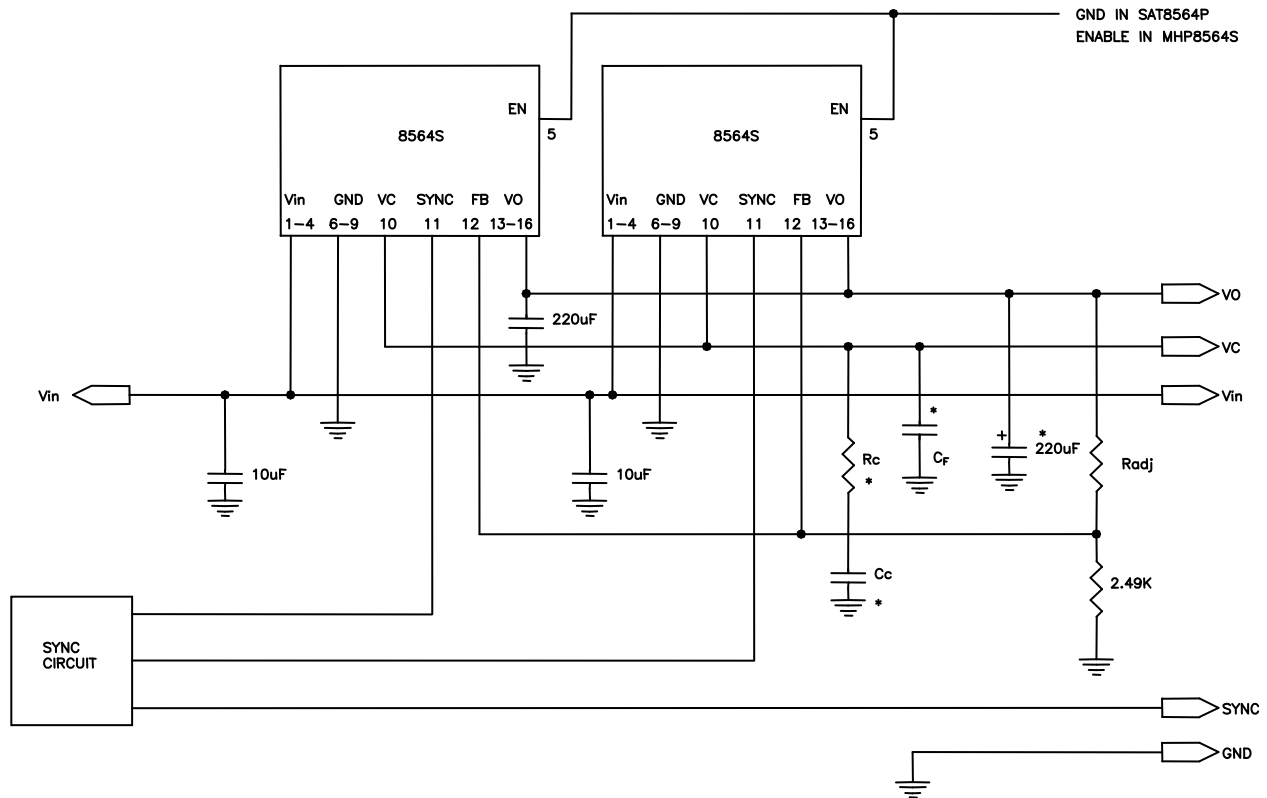

Figure 6 – Parallel Operation, 8564S
MHP8564S synchronizable regulator application information – Figures 6 and 2.
5 V supply. Figure 6 shows a typical application circuit.
- Pin 10, Vc, Compensation pin, but also used for paralleling. In this version of the MHP8564, the compensation components are not included internally, so they must be added externally. See figure 6.